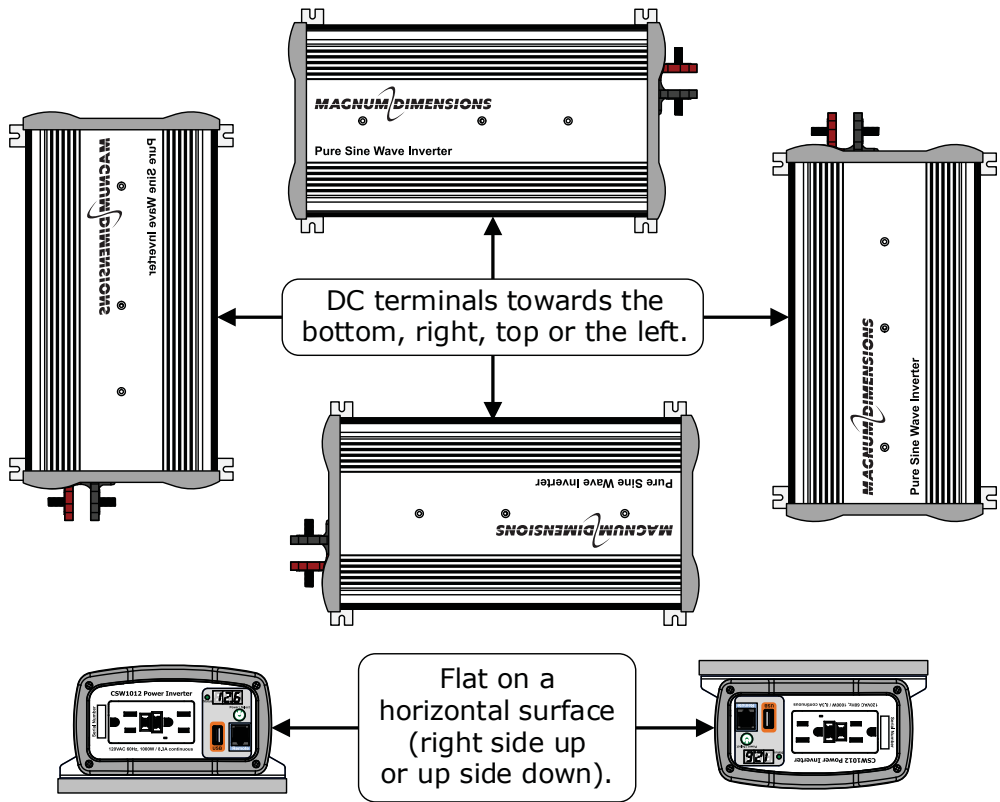
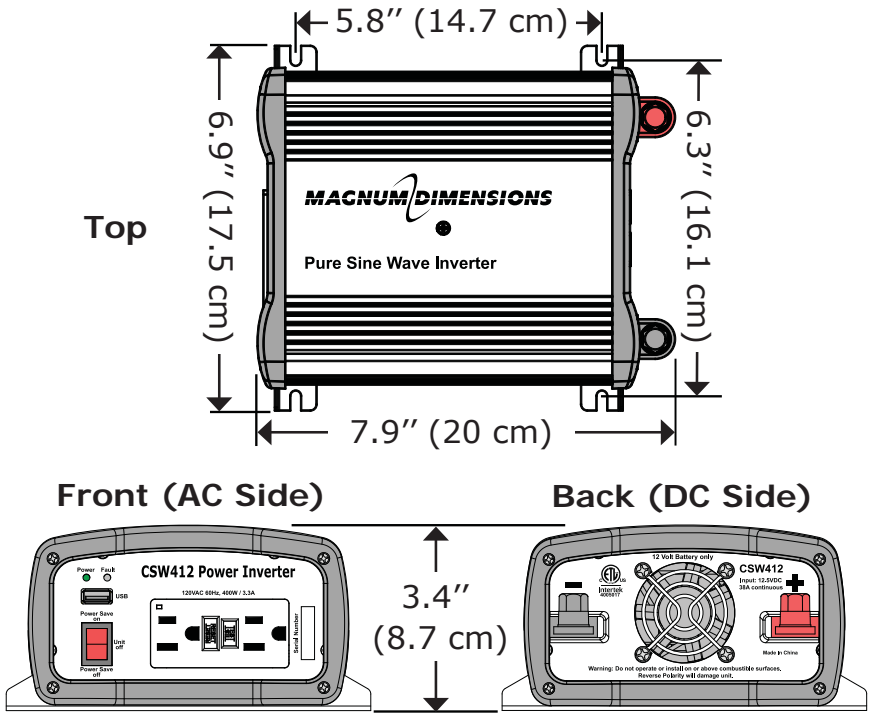

Figure 2-3, Mounting Positions
Figure 2-4, CSW412 Dimensions
**Orienting the inverter** – This inverter has no restriction on the direction on which it can be mounted. It can be mounted on/underneath a horizontal surface (shelf or table), on a vertical surface (wall or bulkhead) with the DC terminals facing left or right, or towards the top or bottom (see Figure 2-3). Use the base of the inverter’s chassis as a template to mark your mounting screw locations (or, refer to the dimensions in Figures 2-4 thru 2-6). If this unit is used in a mobile application, you may want to place flexible washers or bushings between the mounting surface and the inverter’s mounting flanges to reduce vibration.